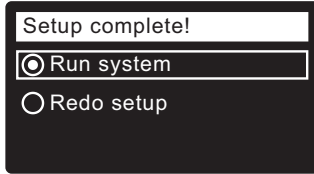

FIG. 33
16. Press the SELECT (O) button. The screen will show “Setup complete!” (See Figure 33).
17. If, at this point, you want to go back and make changes, press the DOWN (▼) button to scroll to **Redo setup**, then press the SELECT (O) button twice to repeat the “wizard” screens.
18. If no changes are desired, make sure **Run system** has a dot next to it (See Figure 33) and press the SELECT (O) button. The unit begins normal operation.